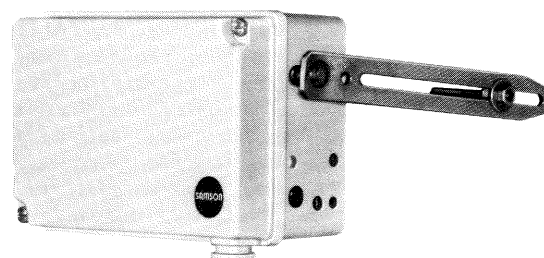

Fig. 1 · Type 763 i/p Positioner
**Type 763** (Fig. 1), Positioner for supply pressures between 1.4 and 6 bar and input spans of 8 to 20 mA, with interchangeable measuring springs suitable for valves with strokes of 7.5 to 50 mm.